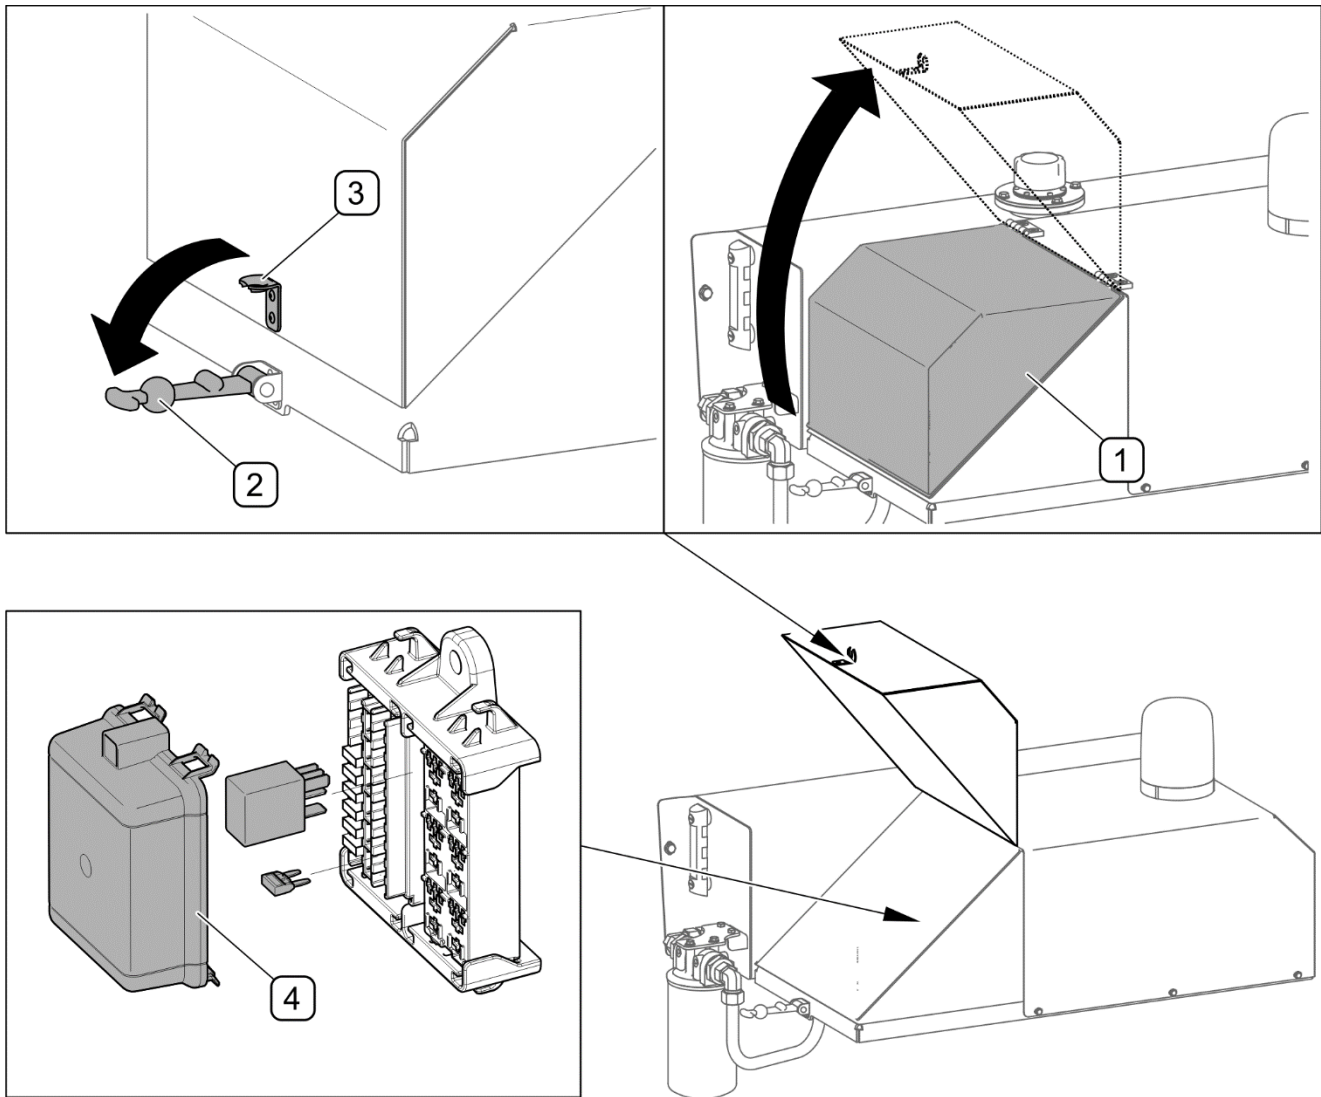

FIG. 5.5 **Location of fuse box**
In case of electrical system failure, check fuses located under cover (1) at the rear of the sand spreader, next to oil filter (FIG. 5.5). Open cover (1) by removing rubber protection (2) from catch (3). Fuses and relays are located in a holder under small cover (4). Remove a blown fuse from the holder and replace it with a new one. List of fuses is shown in TAB. 5.3